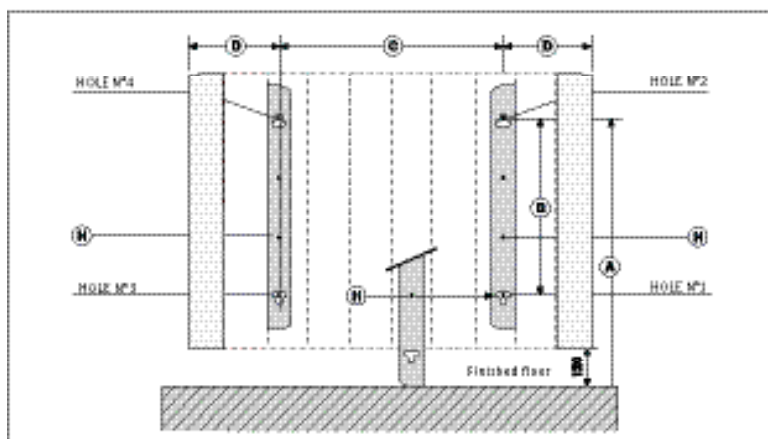

Fig. 1
- Secure the radiator in position at the bottom using the locking bracket (Figures 1 and 2).
The radiator is class II and has IP24 electrical protection. In bathrooms, it can be installed in area/zone 3 (see figure 1) on condition that the control device is not within reach of people using the shower or bathtub.